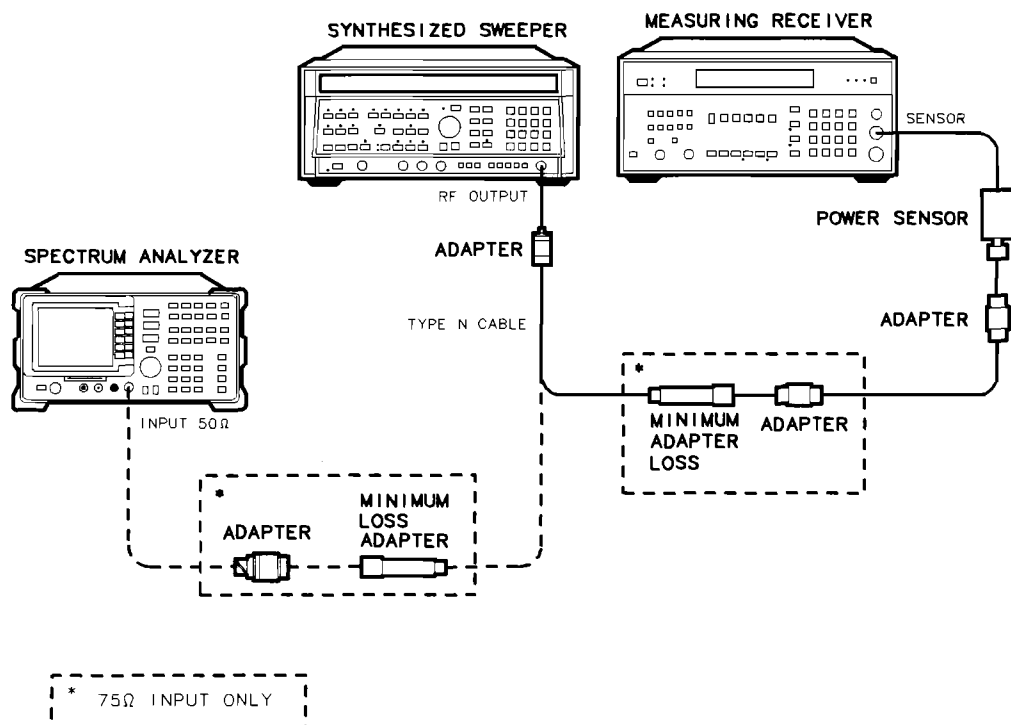

Figure 2-38. Other Input Related Spurious Responses Test Setup
3. Connect the equipment as shown in Figure 2-38. Connect the output of the synthesizer to the 100 kHz to 1800 MHz power sensor using adapters.
75 Ω input only: Use the minimum loss adapter and 75 Ω adapter as shown in Figure 2-38.